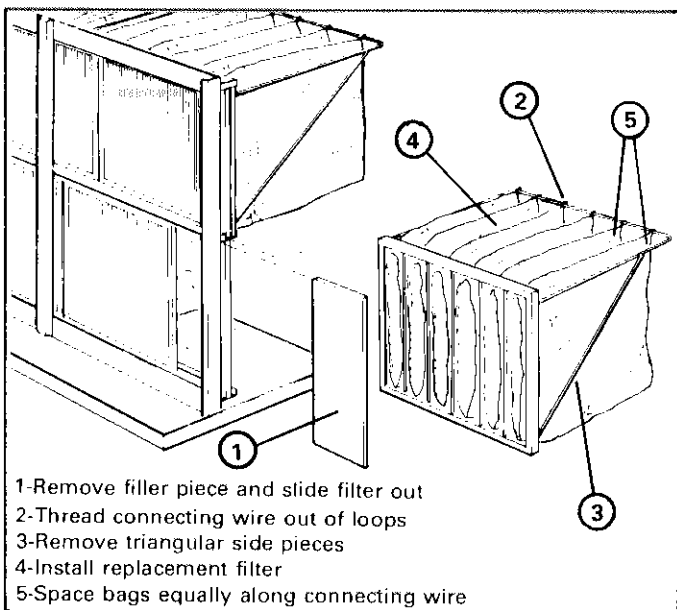

FIGURE 121
- 2 - To change bag assembly filters, pull old filters from unit as shown in Figure 121. Remove wire support rack from filter frame and reinstall on replacement filters: